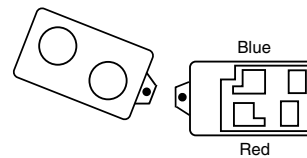

Figure 3. 5804 shown open, buttons facing down.
To paste a label on a button, slowly peel off a label with a selected function and paste it on the button of the transmitter. If you decide later to reprogram a button, the label can be easily removed or a new label pasted over the existing one. Additional colored buttons (red and blue) are also provided that can be used with or without the labels. The buttons can be inserted only in the areas provided (see Figure 3).
3. Replace the desired buttons, either red or blue, in each button's designated opening (see Figure 3).